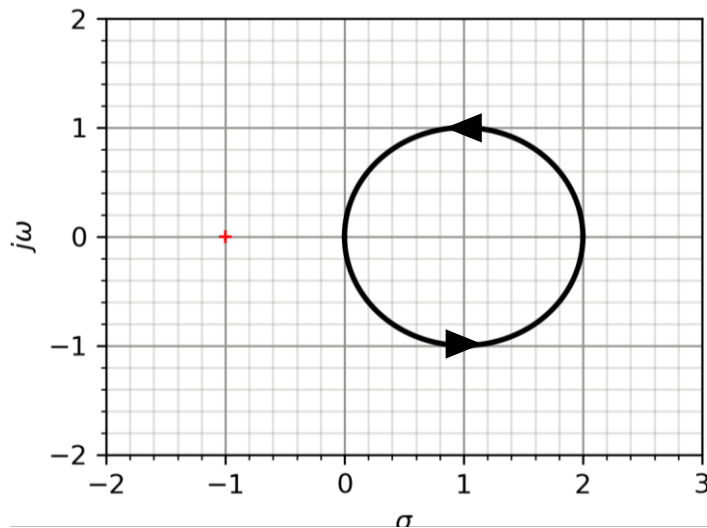

Figure 3.A Nyquist plot of $G(s)$
- A) [3 marks] The Nyquist plot in figure 3.A shows the frequency response of a system $G(s)$. This system is unstable in open loop but stable closed loop.
- B) [3 marks] The unit step response in figure 3.B was produced by the system $H(s) = \frac{1.5}{s+2}$